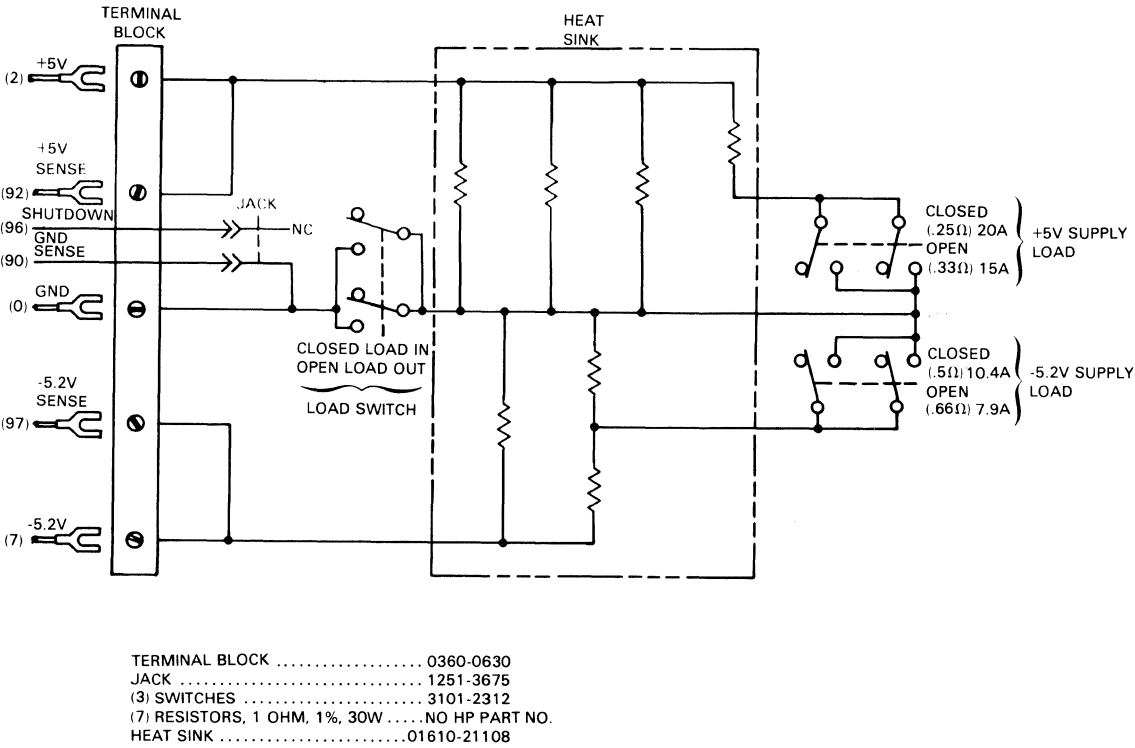

Figure 5-2. Power Supply Test Load
The +5 V and -5.2 V Current Limit Adjustment Procedure requires the use of a test load. This test load may be fabricated as shown in figure 5-2.
- b. Disconnect A18W3 from A11J4 and A11TB1 and connect it to test load as shown in figure 5-2.